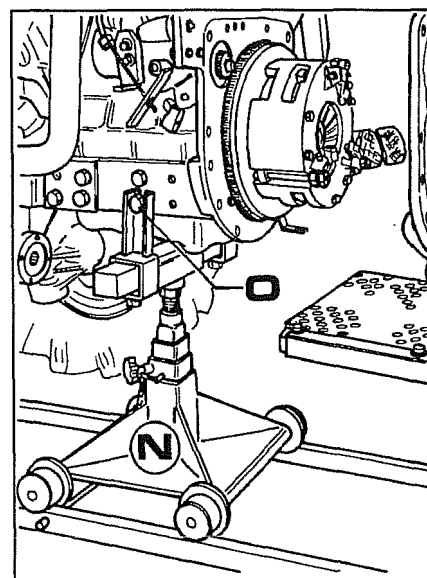

Fig. 18
18. At this point the tractor halves can be separated. To do this you will need stand **N** Fig. 18 absolutely essential to support and keep the two halves aligned. Fix it in position with screws **O**.